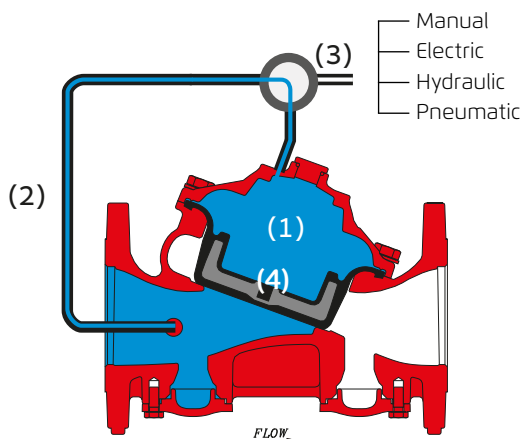

Fig 1a: Valve Closed
In the closed position (Fig 1a): The water pressure supplied through the priming line (2) is trapped in the control chamber (1) by the operating valve (3) pressing the seal disc (4) down and thereby sealing the valve and keeping the system piping dry.